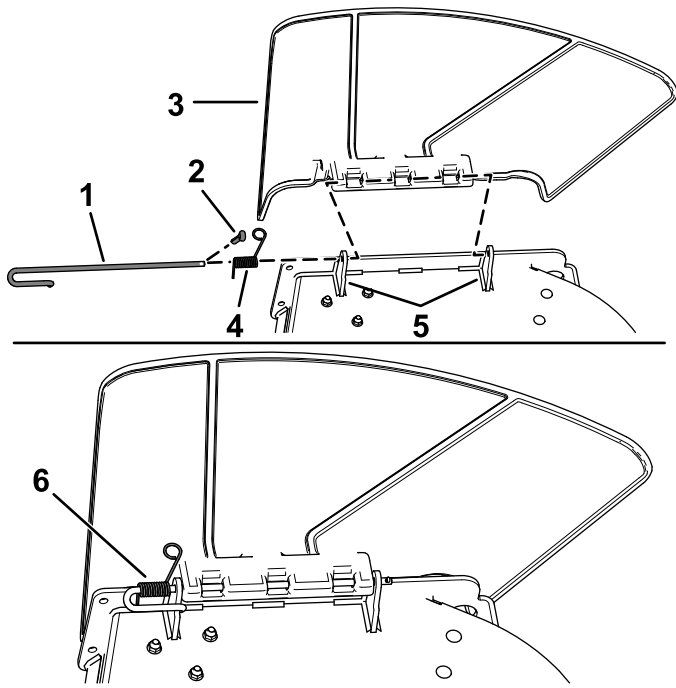

Figure 1
1. Remove the cotter pin (Figure 1).
2. Disengage the spring from the notch in the deflector bracket and slide the rod out of the welded deck brackets, spring, and discharge deflector (Figure 1).